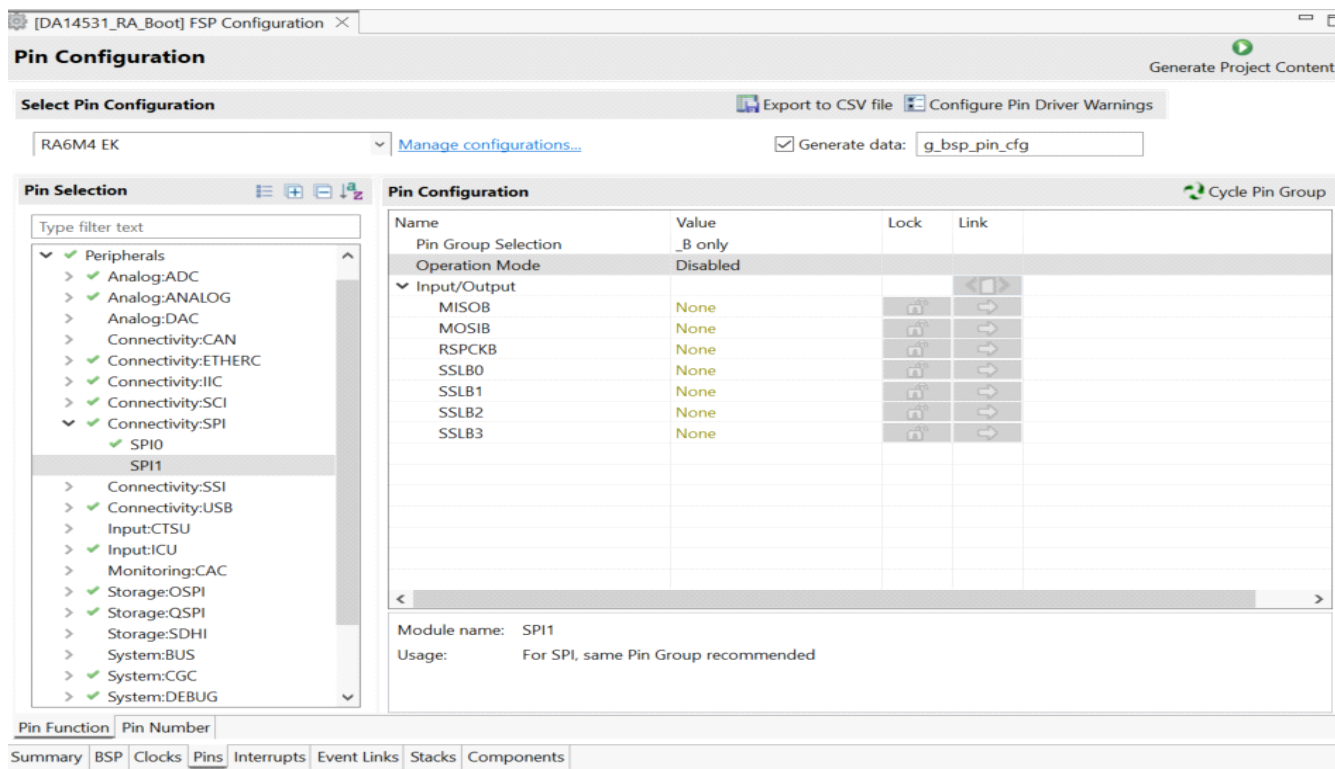

Figure 12. Pins Tab – Peripherals > Connectivity: SPI Group
13. Navigate to the **Pins** tab within the **Pins Configuration** window (see Figure 12).